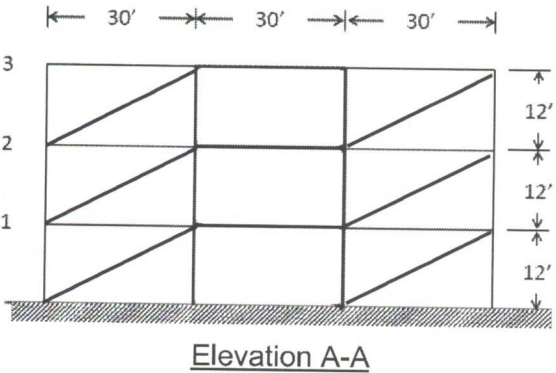

Figure 1
**Problem 1** (8 points) – The enclosed building in Figure 1 needs to be designed for a basic wind speed of 120 mph. The exposure category is B. Only consider wind coming from the west.
**Problem 2** (12 points) – You are asked to design the building in Figure 1 for earthquake loading in the east-west direction. Your colleague calculates the total horizontal seismic design force that needs to be applied at the roof to be 60 kips.